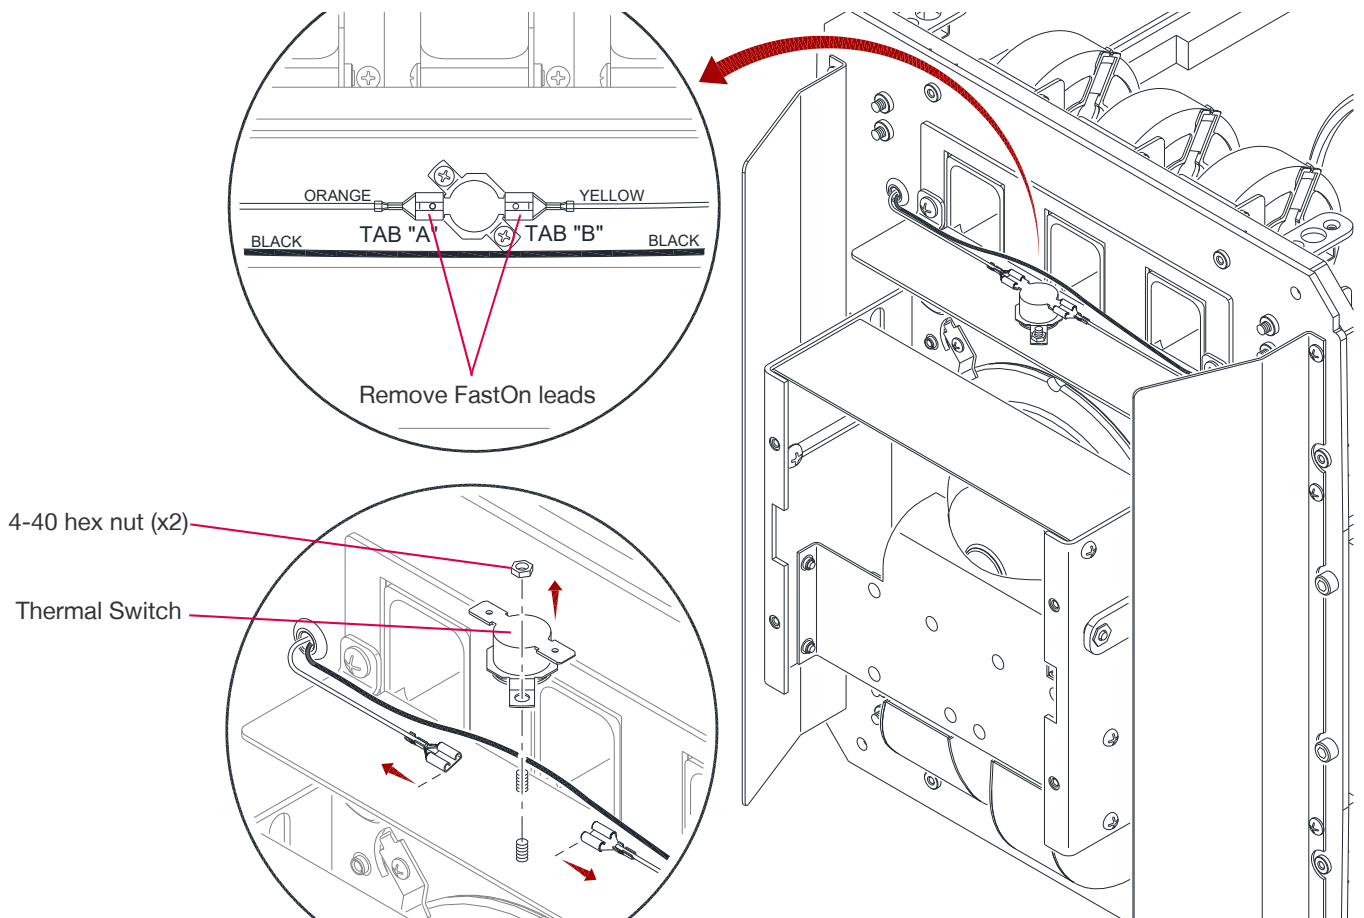

Figure 3-40: Replacing Lamp Thermal Switch
- Step 6. At the Thermal Switch, remove the two FastOn connectors. (**Figure 3-40**)
- Step 7. Remove the two 4-40 hex nuts from the Thermal Switch to remove it. (**Figure 3-40**)